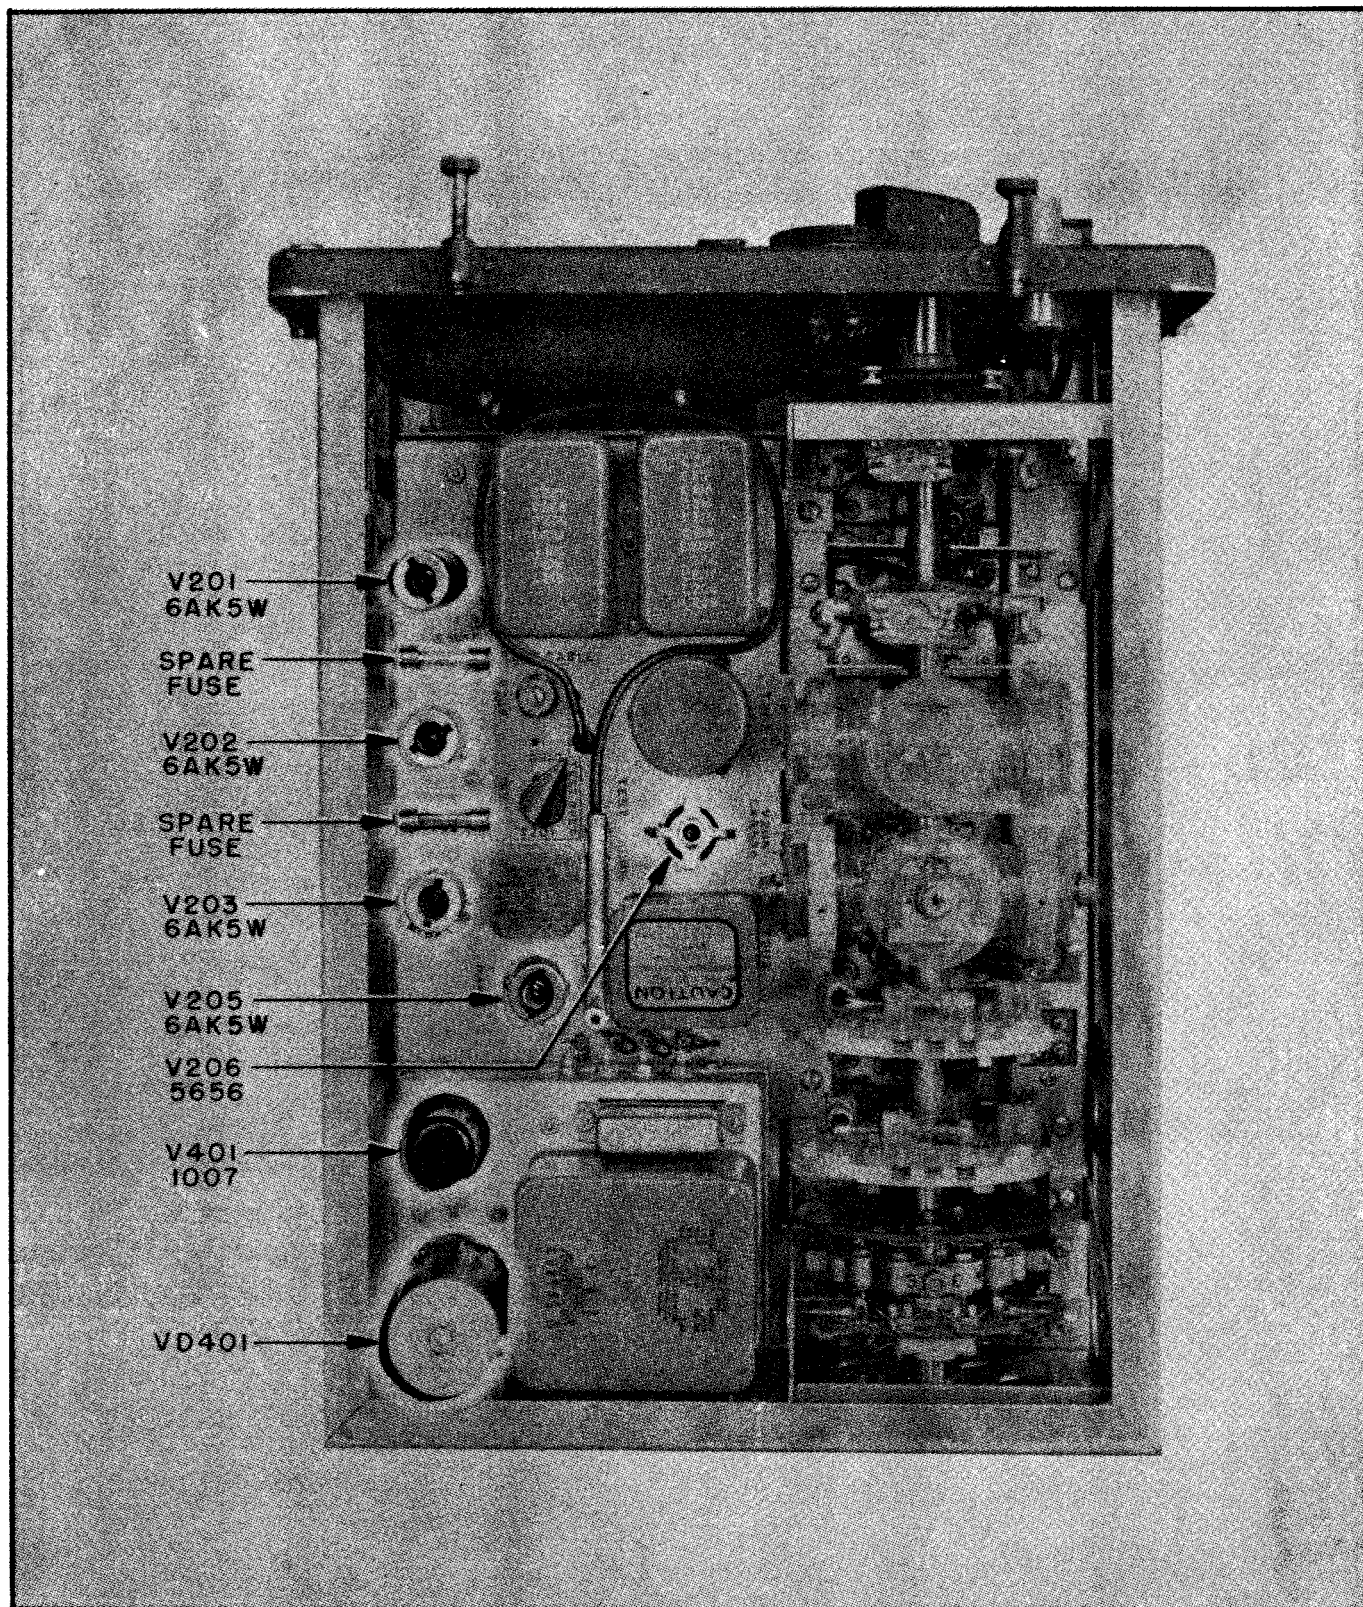
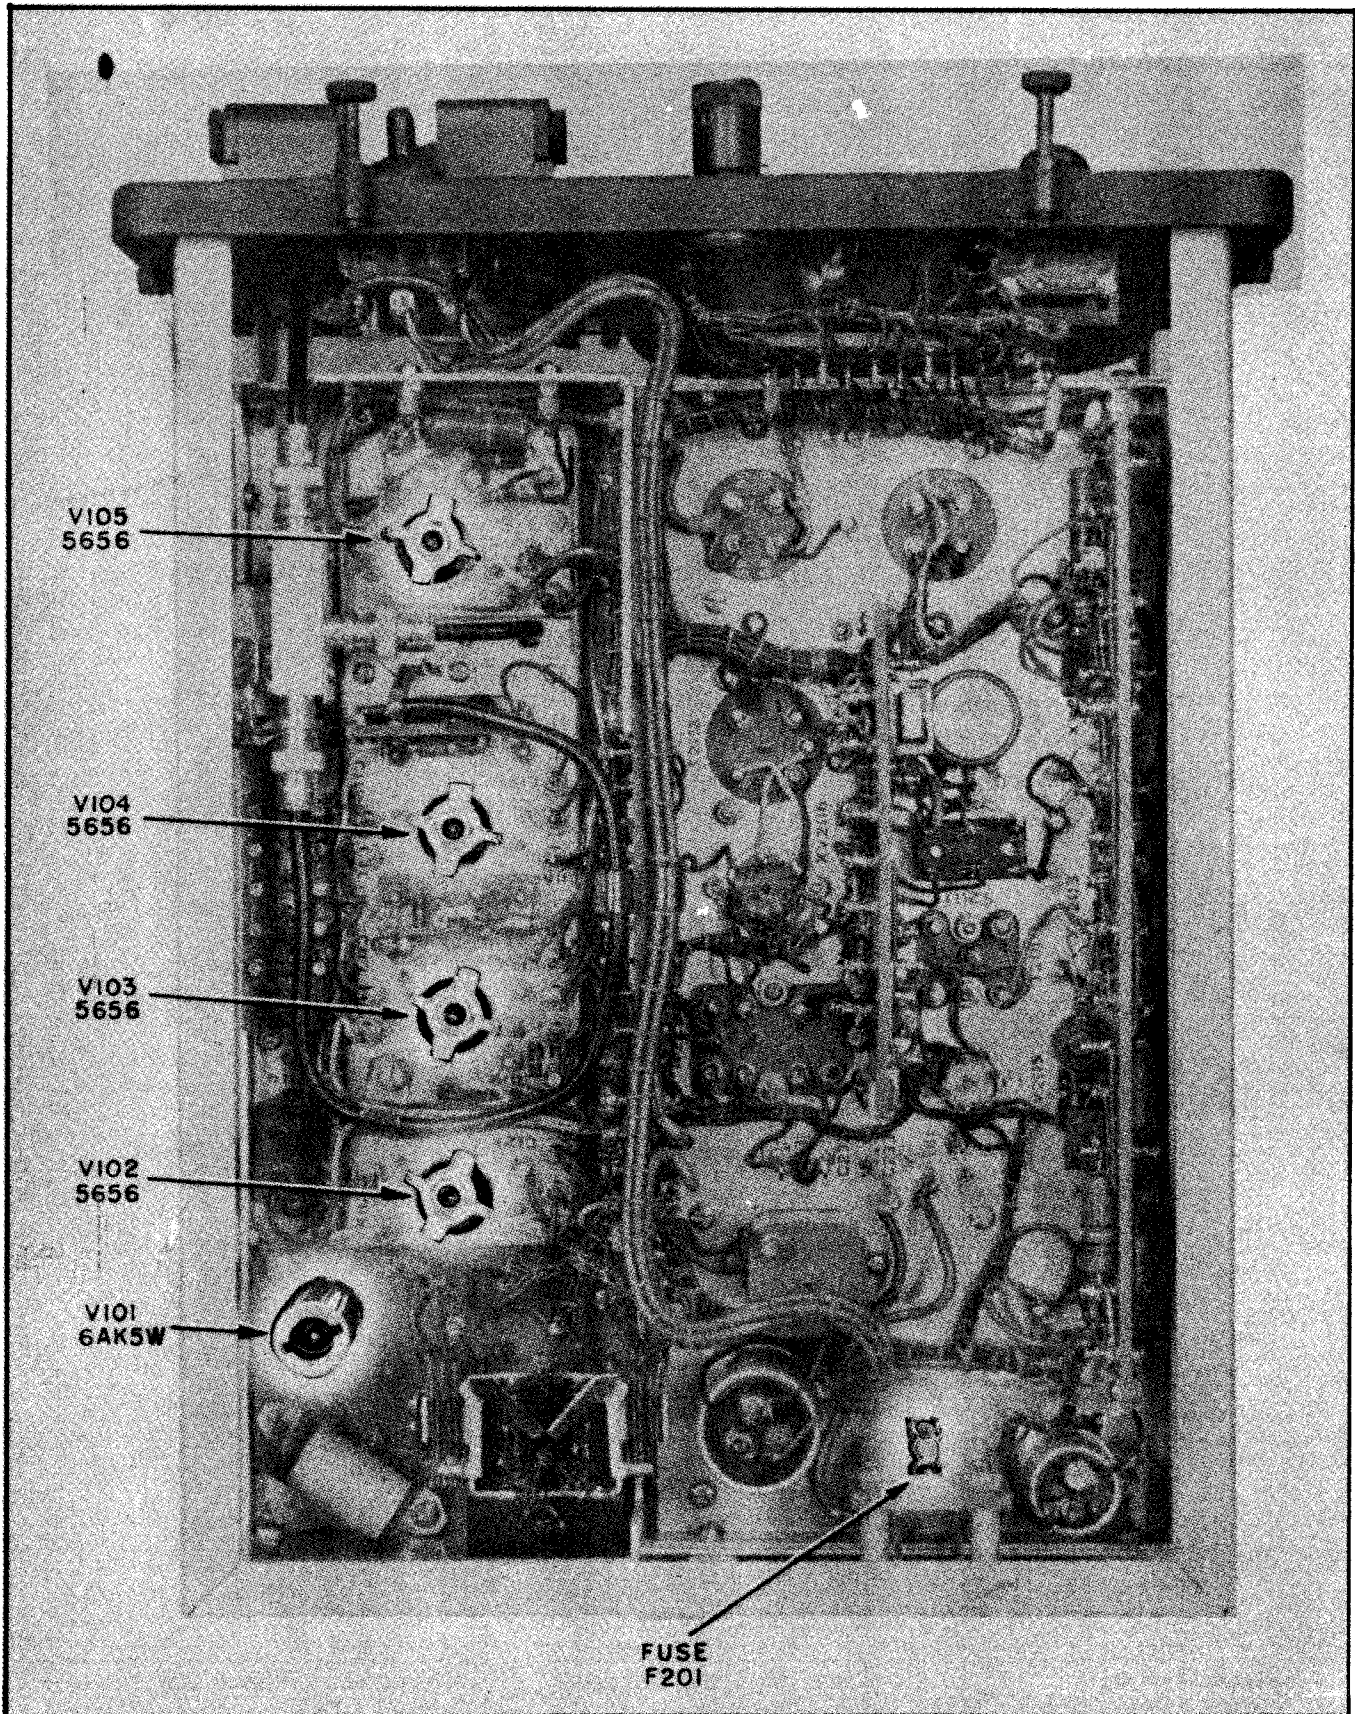

Figure 5-4.—Field Replaceable Tubes, Vibrator, and Spare Fuses.
Figure 5-5.—Additional Field Replaceable Tubes and Equipment Fuse.
A defective Microphone (Navy Type 51066) may be quickly replaced in the face harness by spreading the metal bracket (item 6, figure 5-4) slightly with the fingers, lifting the microphone out, and carefully inserting another.
There is only one fuse (F201) in the MAY-1 Equipment. This fuse is located as shown in figure 5-5 and may be removed by pulling straight out. Two spare fuses are mounted on the Transmitter-Receiver chassis as shown in figure 5-4; either one may be used as a replacement.
The Transmitter-Receiver vibrator (figure 5-4) may be easily removed by pulling straight out. A replacement vibrator is carried in the Auxiliary Battery Pack.
All field-replaceable tubes may be removed from their sockets by a straight, even pull, taking care not to bend the tube pins or strike the tube against some other component when withdrawing. Some miniature tubes are protected by shields which push down and turn to release; others (such as V102-V105) employ spring clamps which must be lifted from the top of the tube and swung aside. Refer to figures 5-4 and 5-5 for tube locations.
For location of electron tubes, fuse, and vibrator see figures 5-4 and 5-5